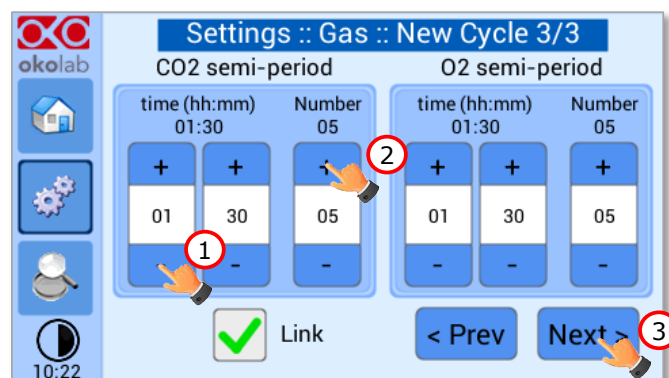

Figure 53. Set the duration of the Gas Cycle.
2. Set the duration in hours and minutes you want the system to dwell on each concentration (1 in Figure 53).
3. Set the number of cycles (*Number*) you want the system performs (2 in Figure 53). Finally press *Next*> (3 Figure 53).